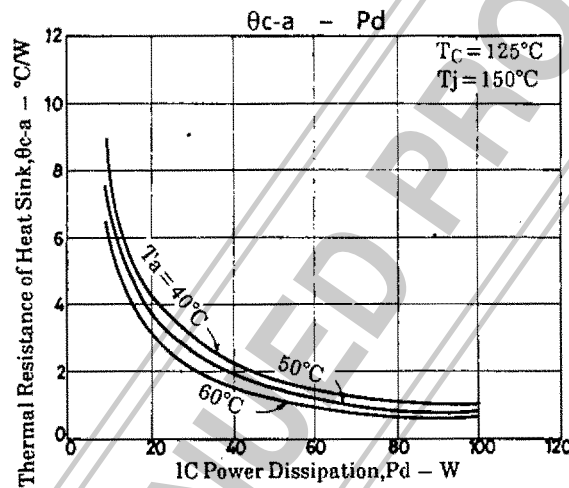

Fig.2 STK4231 II. θc-a - Pd
Fig.2 shows the relation between Pd and θc-a given from (1) and (3) with Ta as a parameter.
The thermal resistance of a heat sink is obtained from Fig.2.